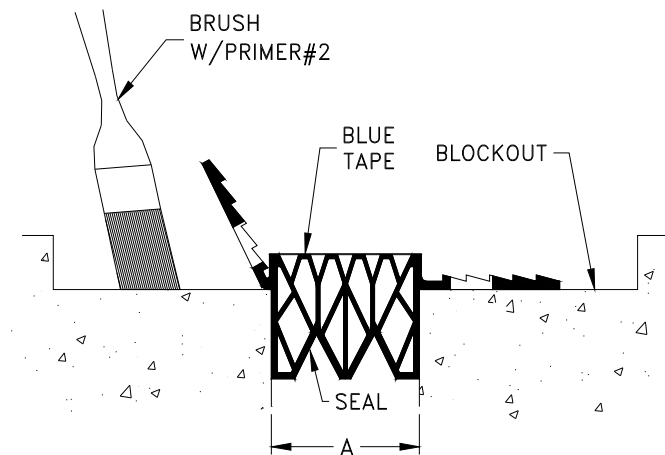

Figure 6
- STEP 6.** Thoroughly mix one unit of Balco Primer #2 (part A and B) and brush/roller apply to the horizontal and vertical surfaces of the blackout (see Figure 6). Ensure that the Primer #2 does not puddle. Allow the Primer #2 to cure to a point where it is just dry. Typical coverage rate is 60 ft./unit.